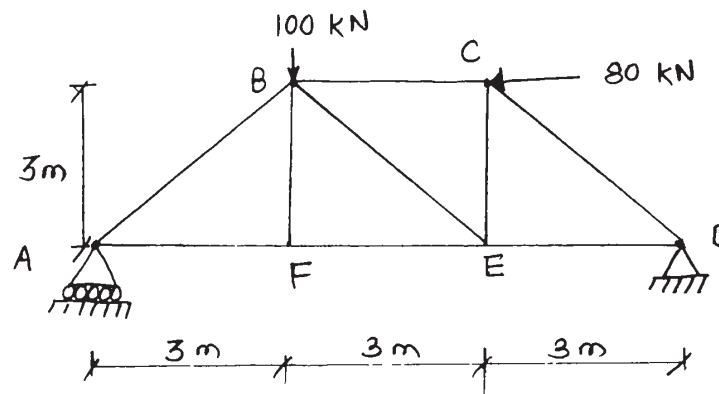

Fig. No. 7
- c) Using method of section. Find the forces in the member BC, BE and FE of the frame as shown in Fig. No. 7